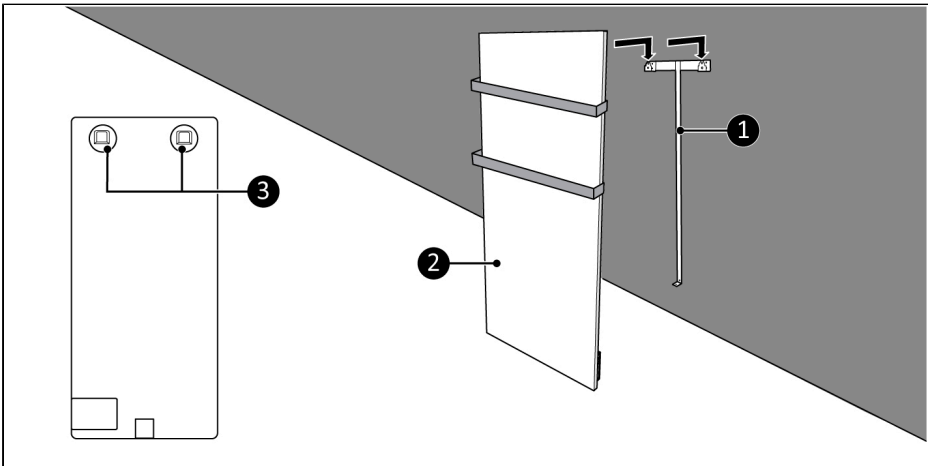

Figure 9.
11. Place the device brackets (Figure 9, pos. 3) over the wall bracket (Figure 9, pos. 1).
12. Slide the device (Figure 9, pos. 2) into the openings of the wall bracket.